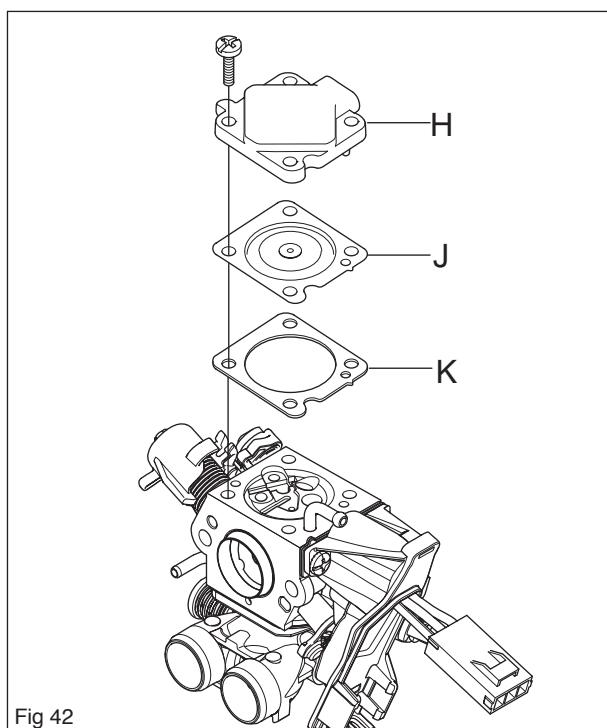

Fig 42
- Fit gasket K, the control membrane J and the pump cover H. See figure 42.